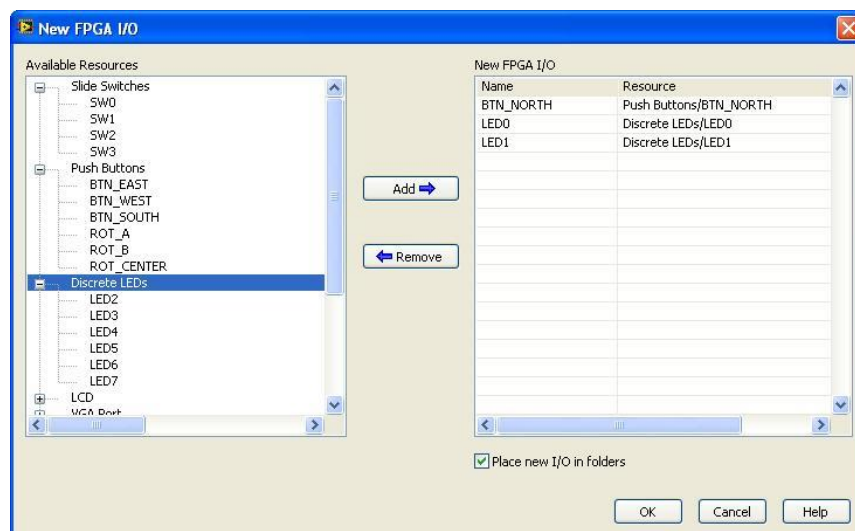

Figure 12: New FPGA I/O
4. Select **LED0** and **LED1** under the **Discrete LEDs** resource and click the **Add** button to add the LEDs to the FPGA I/O. Your New FPGA I/O should look similar to Figure 12.